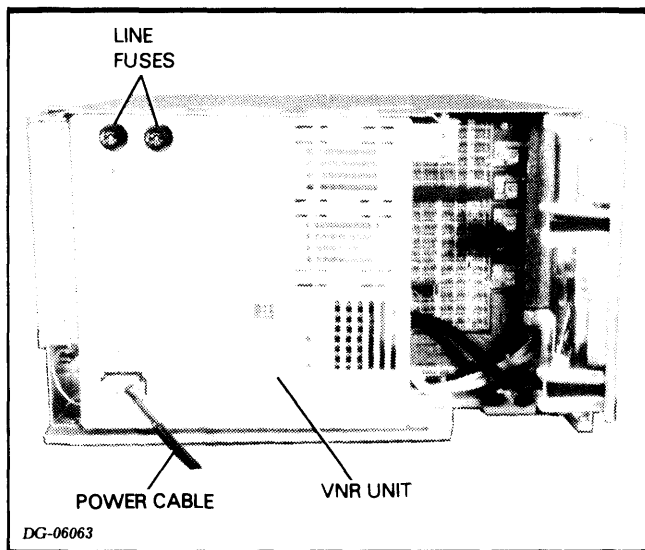

Figure 6.6 LINE FUSES FOR 16-SLOT CHASSIS
13. Check the two 15 Amp ac line fuses which screw into the upper left rear corner of the VNR unit (see Figure 6.6).